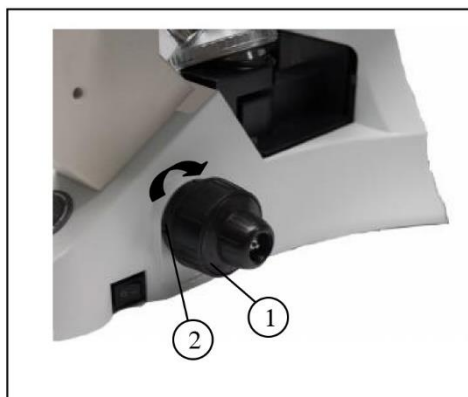
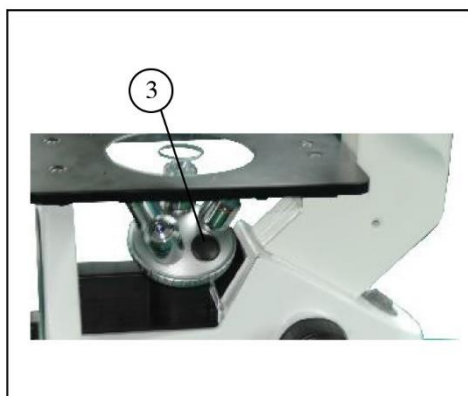

Figure 6
Figure 7
2.2.4. Installing the objective (Figure 6 and Figure 7)